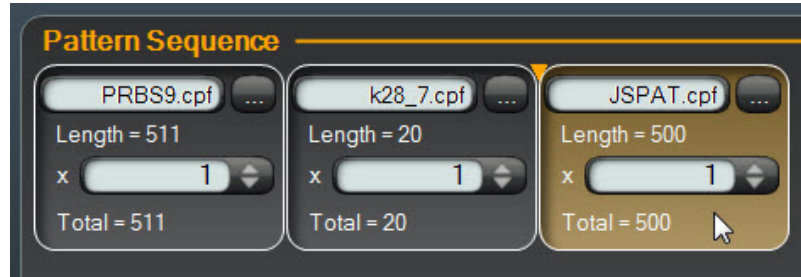

Figure 78. Copying and pasting a sub-pattern
3. Position the inverted triangle (insertion point) where the copy of the sub-pattern is to be pasted. The insertion point is always to the left of a selected sub-pattern as shown in Figure 78.